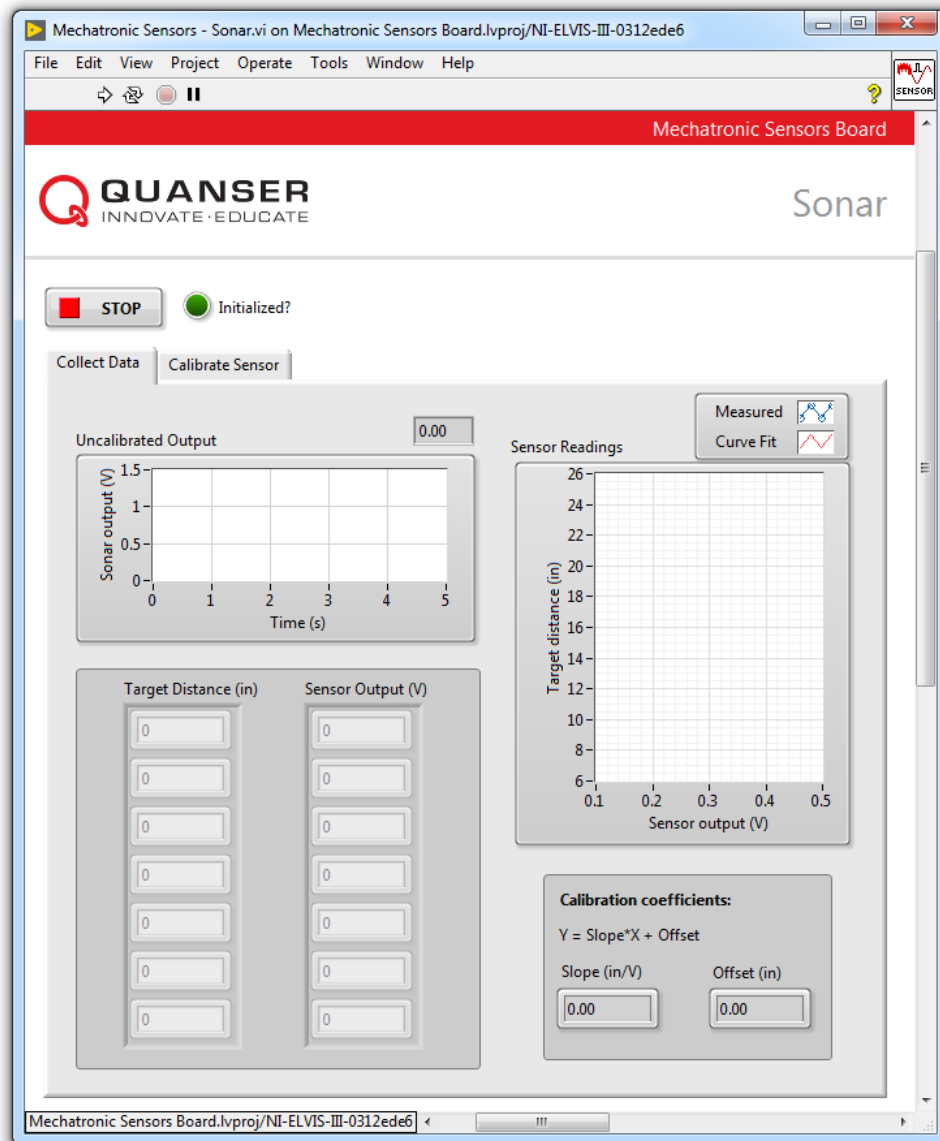

Figure 1 VI for collecting data from the sonar
The Virtual Instrument (VI) used to collect data from and calibrate the sonar is shown in Figure 1.